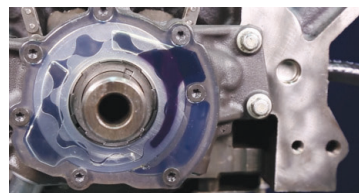

Fig. 2
- 7 Attach a funnel to the other end of the hose and fill with at least 8-10oz of oil slowly, allowing oil to fill the oil pump. Leave hose attached for at least 3 minutes until all oil has filled the pump gears. (See Fig. 2 above for reference)